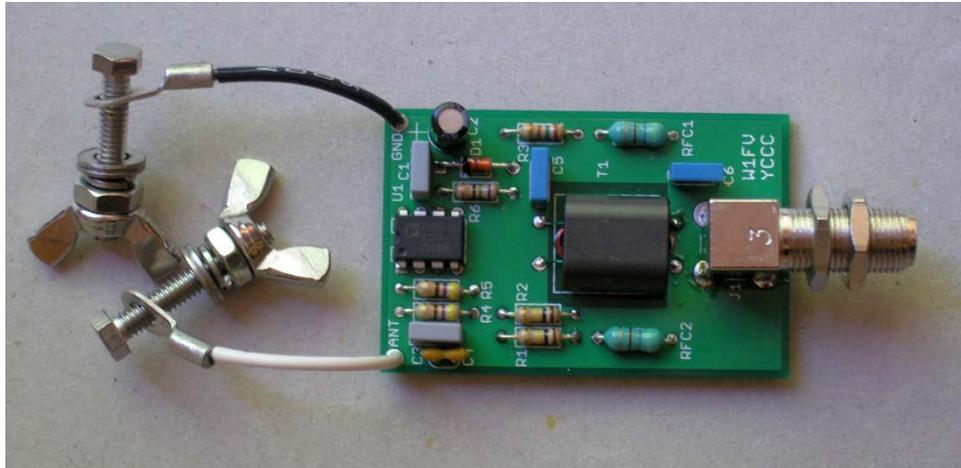

Figure 11. Feedpoint preamplifier PCB
A small fine-tip soldering iron is recommended for all soldering work. The component numbers and outlines are silkscreened on the top of the PCB to make it easy to identify correct parts placement. Refer to Figure 11 as you follow these instructions. Color codes for the various resistors are provided below for easy identification. If you are still unsure about the value of a resistor, measure its resistance with an ohmmeter.
15. Solder the J1 pins to the foil side of the PCB. This will place J1 on the top of the board, the same side as the components as shown in Figure 11.
Cut off all excess component lead lengths on the bottom side of the PCB. A finished PCB is shown in Figure 11.